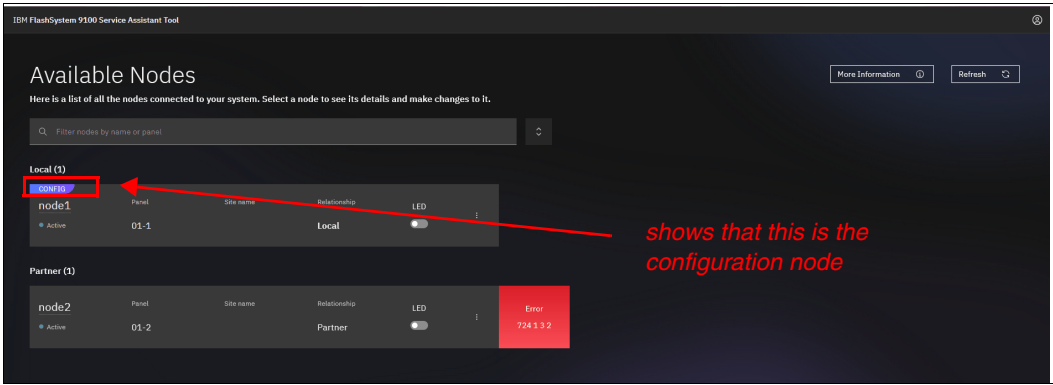

Figure 4-137 Identifying the configuration node on the Service Assistant
2. Identify the configuration node, as shown in Figure 4-137.